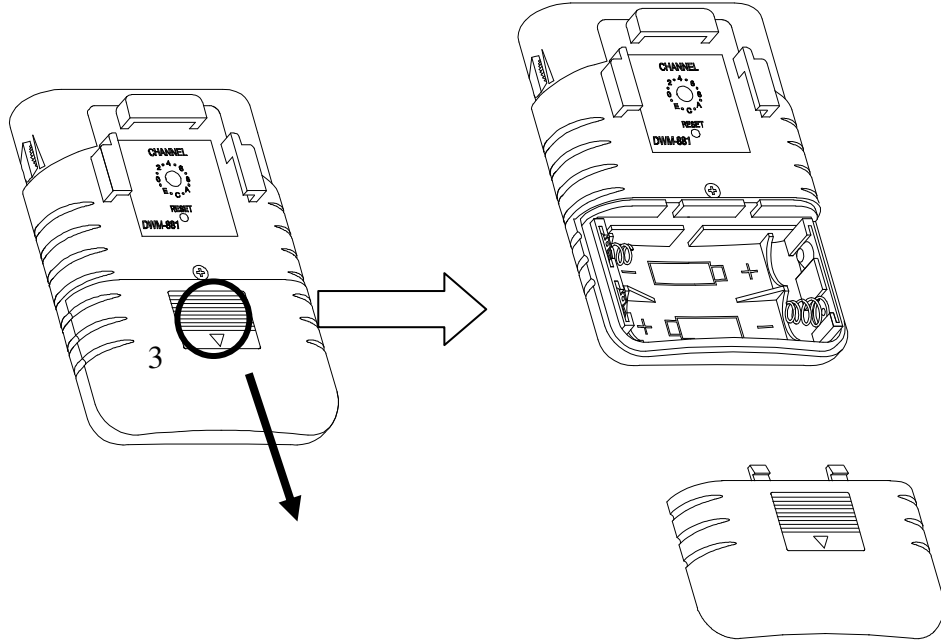

Figure 5.5
5.6.3 As shown in figure 5.5, press on where circle 3 indicates and push the Battery Cover downward to the end, then remove the cover.